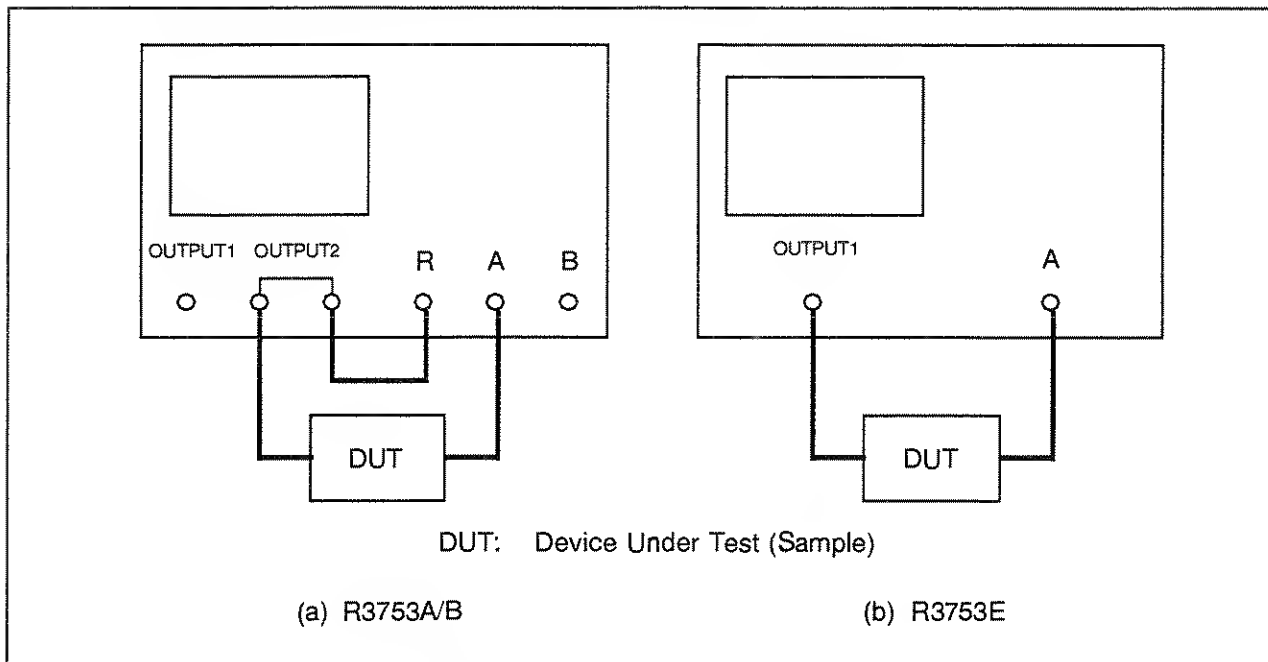

Figure 3-2 Setup (Connection of DUT)
In the case of R3753A/B, the filter is connected between the OUTPUT2 connector and INPUT A connector (Refer to figure 3-2(a)) by the cable.
In the case of R3753E, the filter is connected between the OUTPUT1 connector and INPUT A connector (Refer to figure 3-2(b)) by the cable.
- (1) Setup (Filter connection) and presetting (Refer to 3.1.2 subsections and figures 3-2).
- (2) The measurement format is made an amplitude (Logarithm display).
- (3) Set center frequency and span.
- (4) Make the status of through and do calibration of the frequency characteristic.
- (1) Setup (filter connection) and presetting (Refer to 3.1.2 subsections and figures 3-2)
- (2) The measurement format is made a phase display.